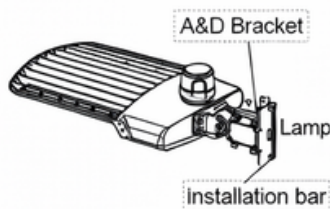

Figure 15
Step 1: Remove the four bolts from ADM bracket, remove the four rubber plugs from installation bar, but re the furer plugs on the place where the fours bolts were previously placed on the bracket for waterproof purpose (Figure 15)